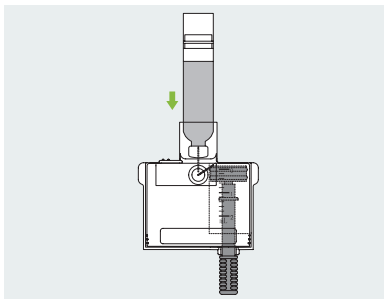

Figure 60
- 2 Use an alcohol wipe to clean the insulin vial or cartridge and then attach it to the fill adapter as in Figure 60.